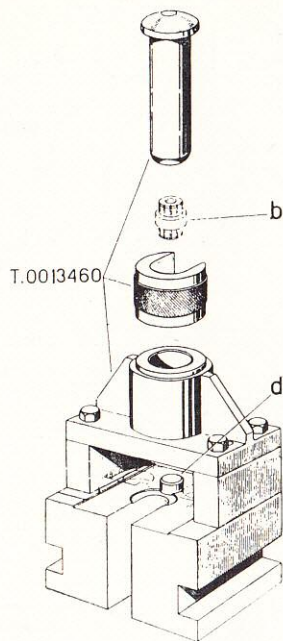

Fig. 90.
3. Press the new crankpin "b" into the crankweb, clutch side (centralized over boss "d"), by means of jig T. 0013460 (see Fig. 90).